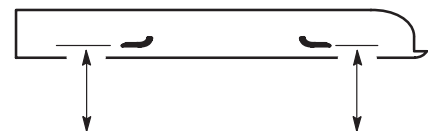

Figure 24
2. Measure from a level surface to the cutting edge of the blades (Fig. 24). Note this dimension.